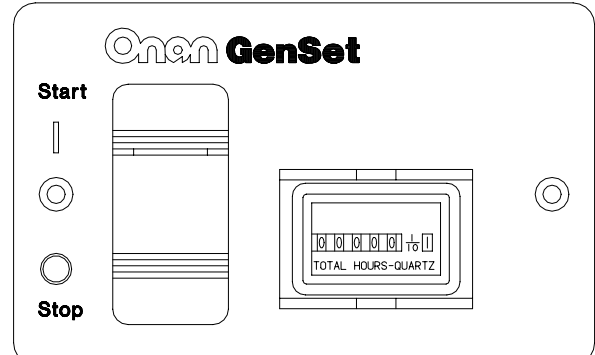

FIGURE 5. REMOTE CONTROL / HOUR METER
- Remote start/stop switch with indicator lamp and hour meter (Figure 5).